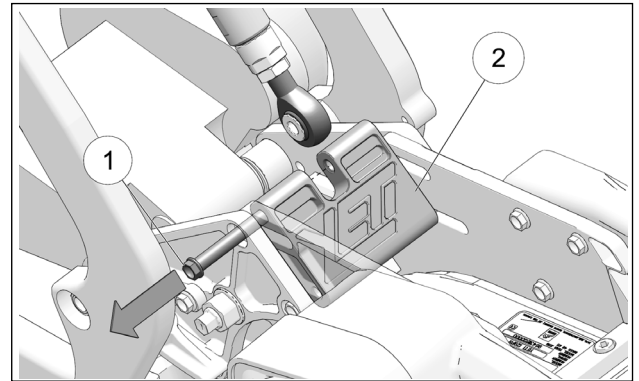

Figure 24
- Loosen and remove bike mount bolt (1) to install the Soft Strut's rod end in the Strut block (2). See Figure 24.